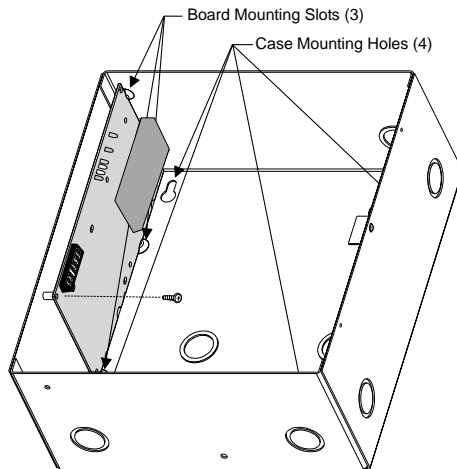

Figure 7. Mounting the Board into Metal Case
2. Hold the case against the mounting surface and mark the four (larger) mounting holes (Figure 7).
2. Slide the board into the three board slots in the left side of the enclosure as shown in Figure 7. Make sure the antenna connector fits through the case knockout.